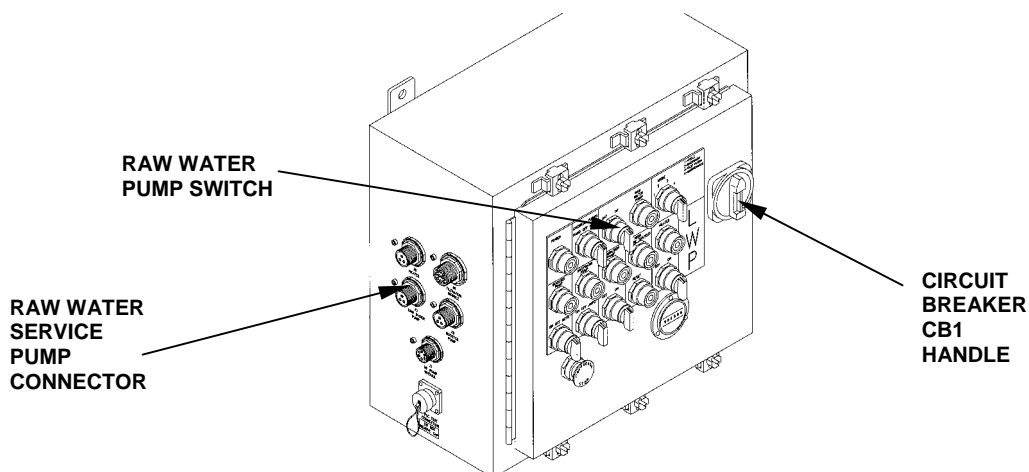

Figure 13. Control Module.
2. Connect the raw water pump cable from receptacle on raw water pump to receptacle J2 on control module. Make sure all electrical connections are tightened securely and hand tightened only. See Figure 13.
5. Place the main circuit breaker CB1 on the control module in the ON position. See Figure 13.
16. Turn off the water flow when the settling tank is full by placing the RAW WATER PUMP switch in the OFF position on the control module and close the inlet valve of the settling tank. See Figure 13.